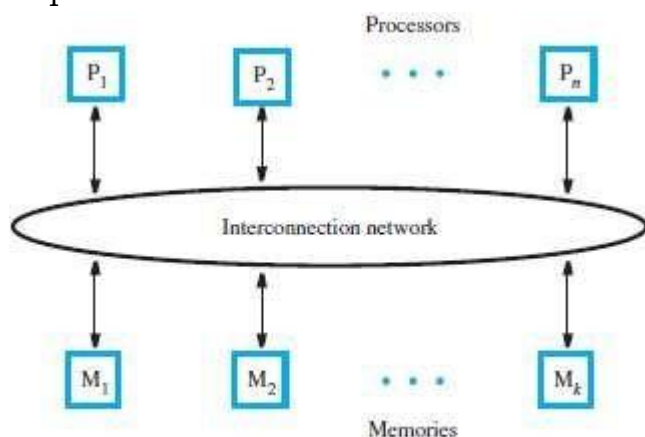

Figure 12.2 A UMA multiprocessor.
- An interconnection-network permits n processors to access k memories (Figure 12.2). Thus, any of the processors can access any of the memories.